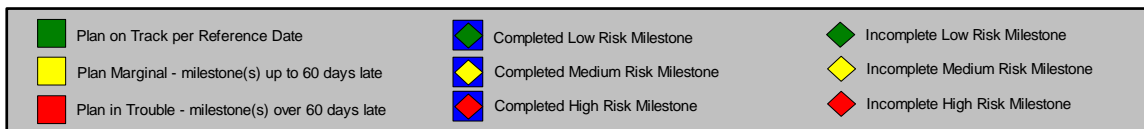
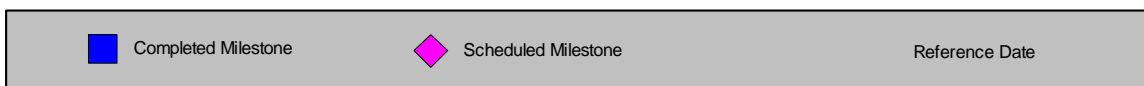

Figure 19: Risk Summary Plot Default Legend
Figure 20: Detailed Risk Plot Legend
Risk Plotter places graphic object legends onto both the risk summary plots and to the detailed risk plots. The default legend that is placed on the risk summary plot is shown below in Figure 19 while the legend used for the detailed risk plots is shown in Figure 20.
- 3) Note that the text box containing the date is NOT part of the legends – it is its own separate graphic object called “Date Box”. Risk Plotter places this Date Box on top of the legends in the locations indicated in Figure 19 and to the left of the ‘Reference Date’ text in Figure 20. The user cannot change the placement of